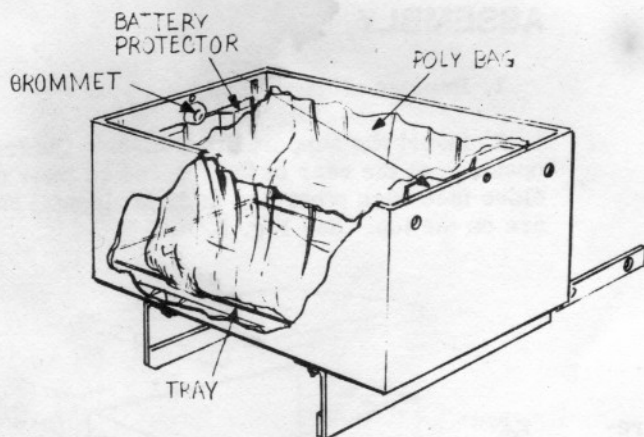

Figure 9
5. Place the plastic tray in the bottom of the box so its drain hole lines up with the drain hole in the box (Fig. 9).
6. Unfold the poly bag and place it in the tray so the bag's bottom seam runs from left to right. Flatten the pockets that form at the seam ends so the bottom of the bag conforms to the tray (Fig. 9).
7. Place a vacuum-formed battery protector between the poly bag and the box wall at the left and right ends of the box. Position the protectors so their corrugations will face the battery walls. (See Fig. 9).